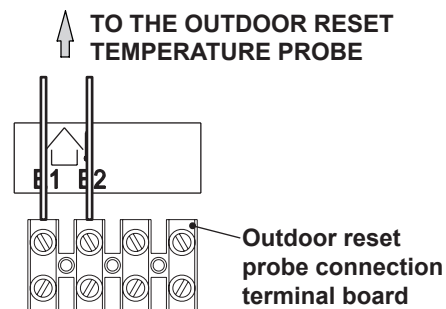

Figure 12.13
- Connect the two electric wires to terminals **E1** and **E2** on the terminal board as shown in Figure 12.13.